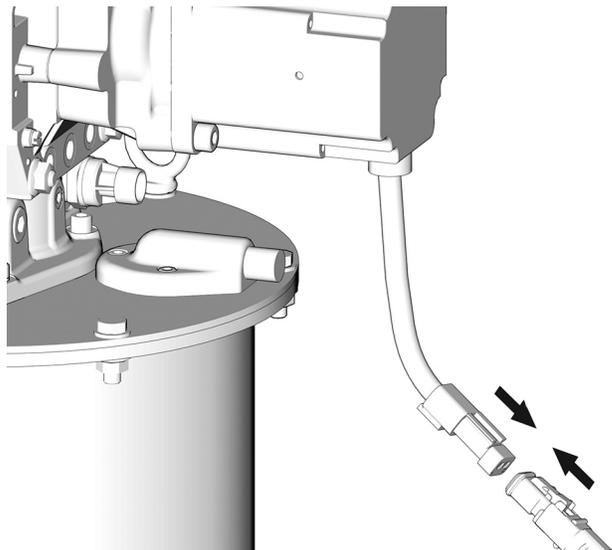

FIG. 9
- 11. Reconnect the power to the system (FIG. 9).